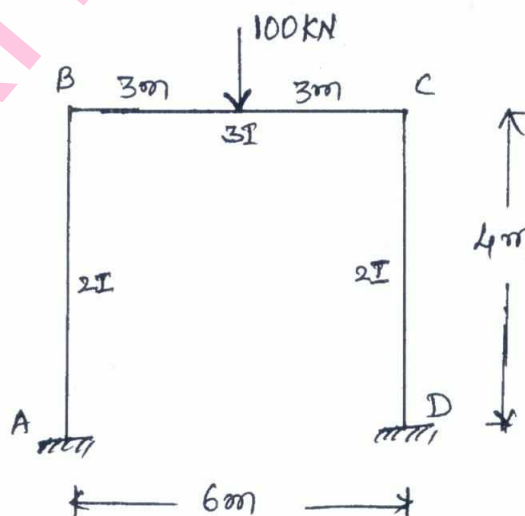

Fig. Q5
- 5 Analyse the frame in Fig Q5 by Kani's method. Draw the bending moment diagram. (20 Marks)